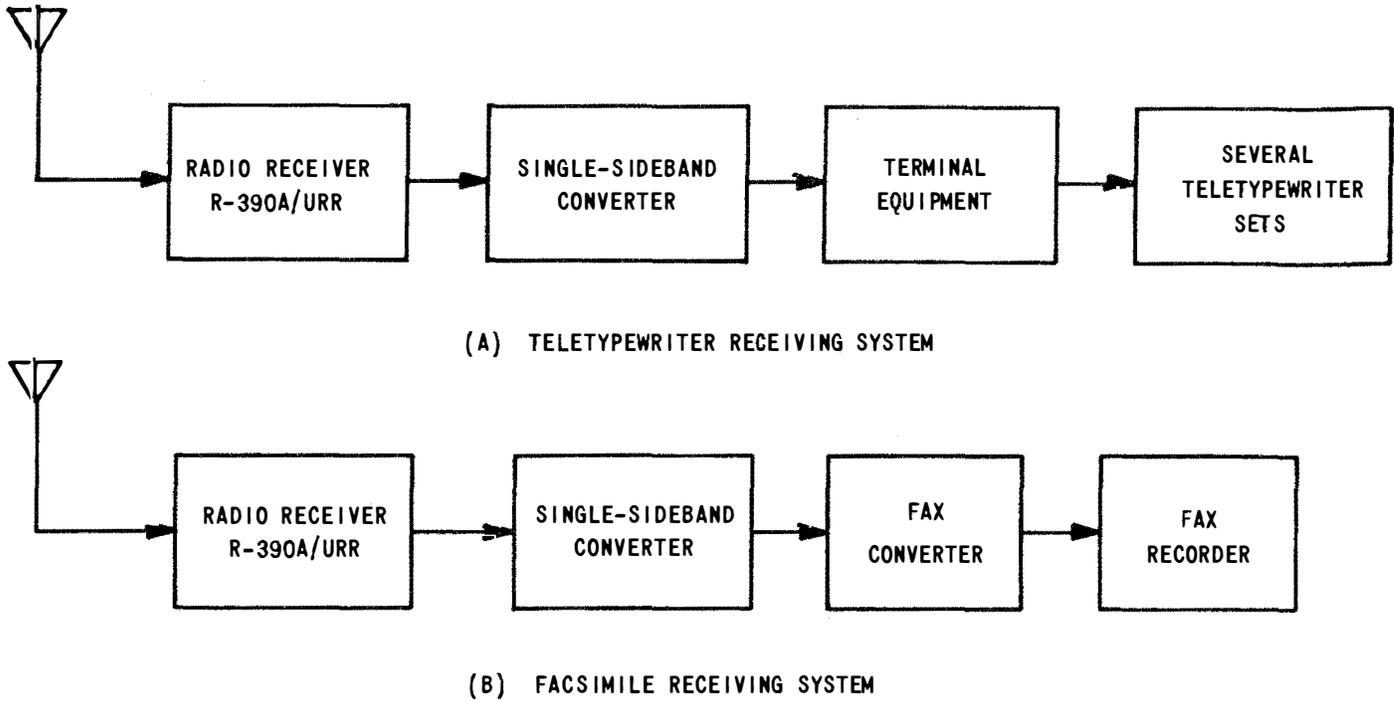

Figure 1-2. System Applications for Teletypewriter and Facsimile Equipment
1.3.2 The receiver furnishes audio frequency output power to a local loudspeaker and headset or a balanced line output for connection to a remote amplifier and speaker. An intermediate-frequency output is also provided so that teletype or facsimile signals may be applied to appropriate converters or terminal equipment which further process the signals for application to teletypewriters or facsimile recorders (figure 1-2). A single-sideband converter is used to process SSB signals but is not required for common AM reception. The teletype terminal equipment might include a frequency-shift converter or multiplex equipment.